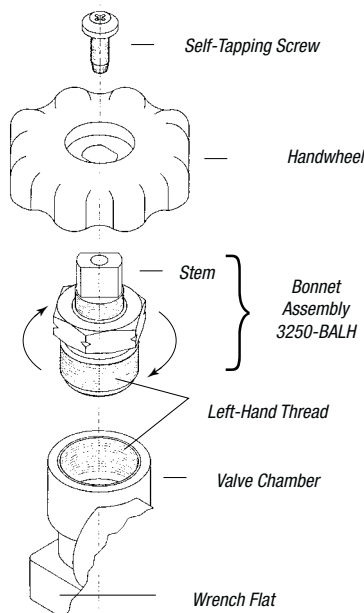

Figure 1
1. Before installing the bonnet assembly into the valve body, make sure the stem is turned fully counterclockwise at the top of the bonnet, as shown in Figure 1. The stem threads will be exposed as shown. This prevents the valve seat from damaging the nylon stem seat as the bonnet is tightened.